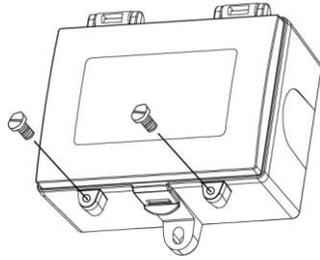

Figure 5: Tighten security screws.
4. Two security screws are provided which can be installed to help secure the cover once settings and wiring connections are complete. See Figure 5.